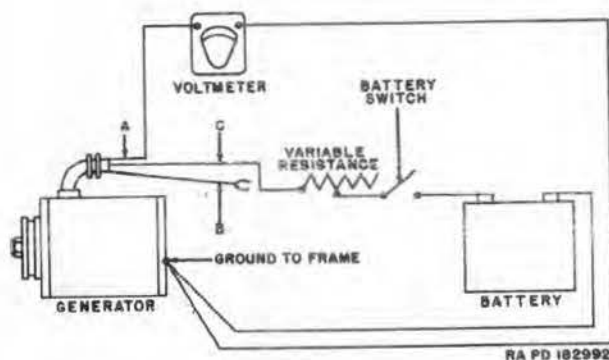

FIGURE 36. GENERATOR NEUTRAL POINT TEST WIRING DIAGRAM.
b. To make neutral point adjustment, mount generator on test stand, but leave armature free to rotate. Connect generator as shown in neutral point test wiring diagram, figure 36. To facilitate connection, use improvised test-wiring harness as shown on figure 4. In making test, use minimum voltage that will cause armature to rotate, but never exceed rated generator voltage.